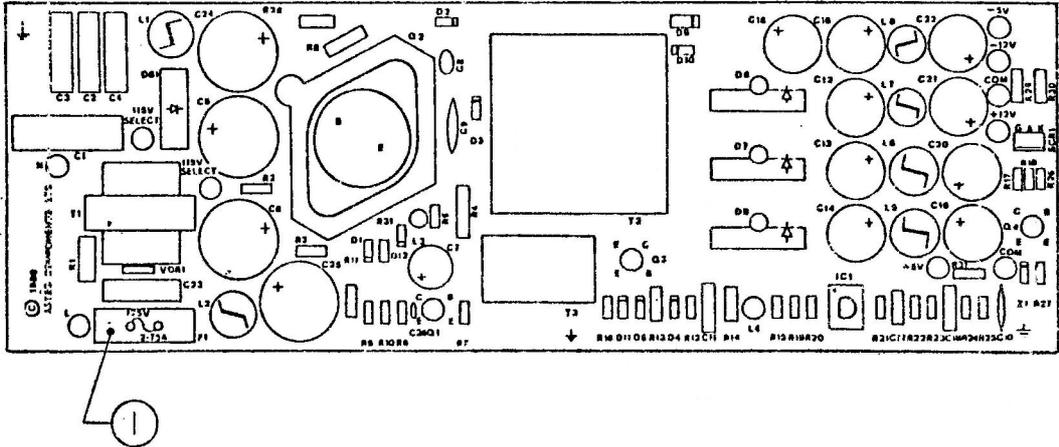

FIGURE 9
- IPL.11 Power Supply Fuse (Figure 9)
□ POWER SUPPLY FUSE (Figure 9)